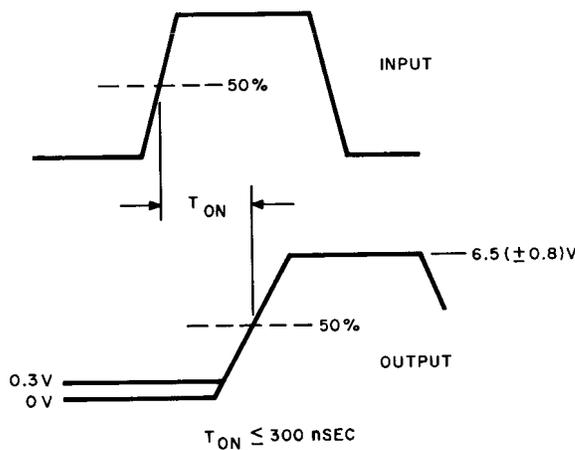
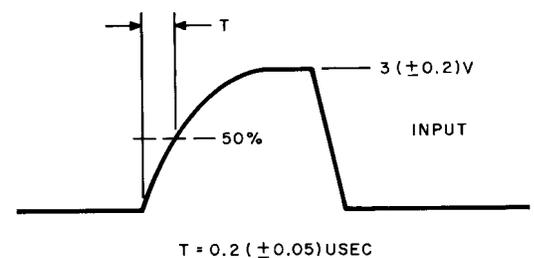

Fig. 9A — Complementary Flip-Flop Test
Fig. 11A — Complementary Flip-Flop Test
- (5) Rotate the INPUT selector through positions 1 to 6.
- (6) The output pulse on J4 of the test set shall be as specified in Fig. 9A at each position.
- (7) Rotate the TEST FUNCTION selector to position 2.
- (8) Repeat as in (5) and (6).
- (1) Connect the EXT SYNC lead to J9 of the test set.
- (2) Connect the CHAN A probe to J9 of the test set.
- (3) Connect the CHAN B probe to J3 of the test set.
- (4) Rotate the TEST FUNCTION selector to position 2.
- (5) Rotate the input selector through positions 1 to 6.
- (6) The output pulse on J3 shall be as specified in Fig. 9A.
- (1) Set the NORMAL — DEGRADED selector to DEGRADED. Adjust the potentiometer P1 until the amplitude of the input test pulse on J7 and J9 is 3.0 (± 0.2) volts.
- (2) With the input pulse as shown in Fig. 11A, repeat 3.10A, 3.11A, and 3.12A; however, time base measurements need not be made. Output waveforms shall appear as in Fig. 9A and 10A.